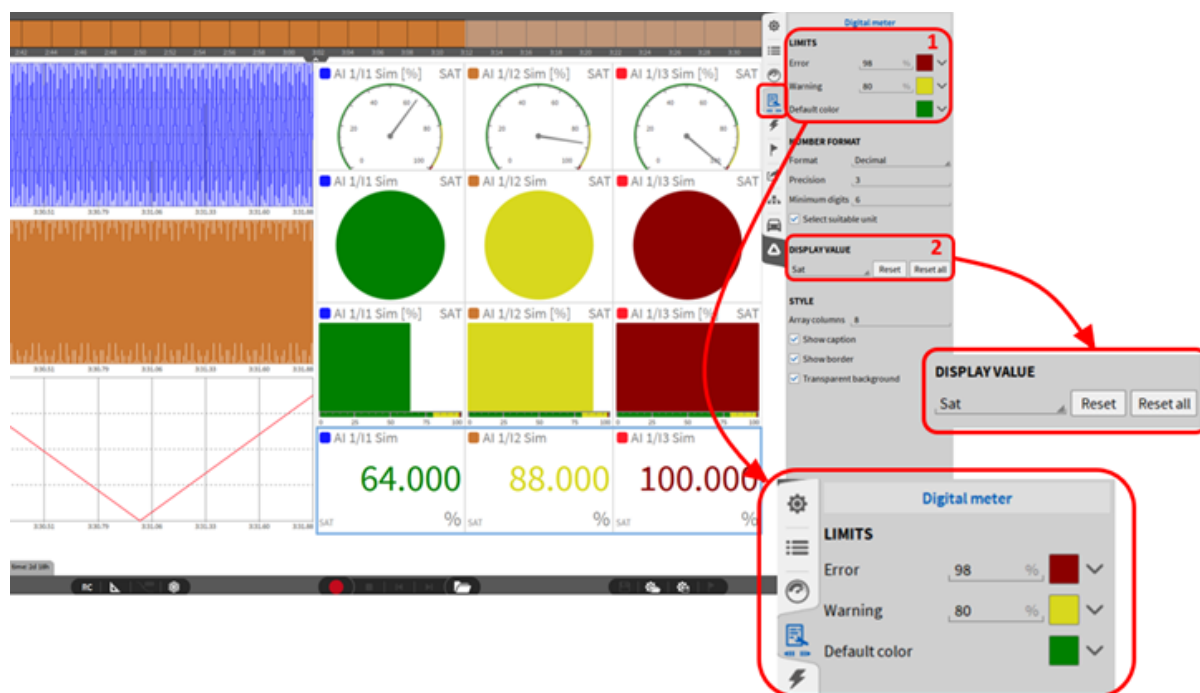

Fig. 8.105: Saturation visualization of channels
After adding one of the previously listed instruments to the measurement screen, the “Sat” (saturation) mode must be selected as the display value in the settings of the respective instrument. (see ② in Fig. 8.105 ). By pressing the “Reset” button, the selected instrument will be reset, by pressing “Reset all”, all saturation displays will be automatically reset (instruments other than the selected instrument too). After selecting the display value “Sat”, the colors as well as the limit values for the display can be changed if required (see ① in Fig. 8.105).